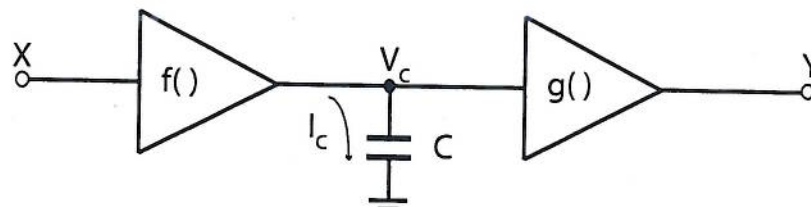

Figure 3.1
b) Figure 3.1 shows a block diagram of a current-mode companding integrator, with an input X and an output Y . $f()$ and $g()$ represent non-linear functions which compress and expand the signal such that the input-output relationship of the integrator is linear and given by: